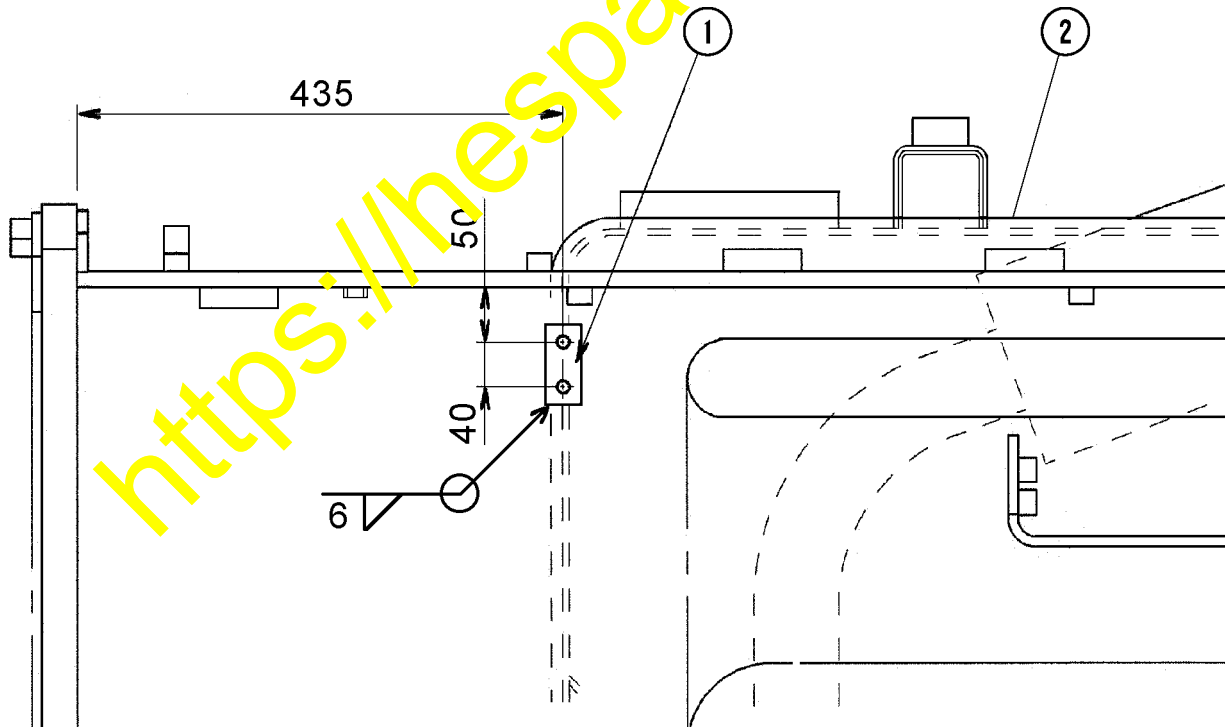

FIGURE 2. HYDRAULIC TANK REWORK
3. Weld new seat (1, Figure 2) on hydraulic tank at location shown in Figure 2.